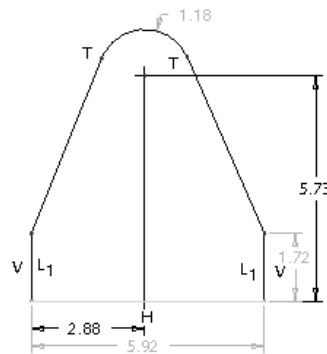

Figure 2-26 Sketch with all entities, weak dimensions, and weak constraints
- Press the middle mouse button to place the dimension below the sketch, refer to Figure 2-26.